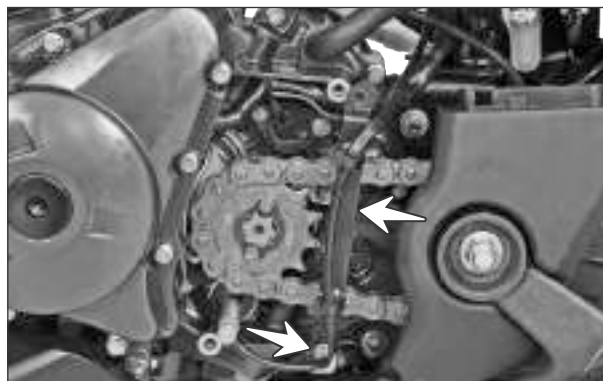

Fig. 2.92
- Remove the hexagonal flange bolt (M6x16 - 1 no.) from speed sensor cable guide mounting and dislocate the cable guide so that the sprocket mounting screws are visible. (Fig. 2.92)